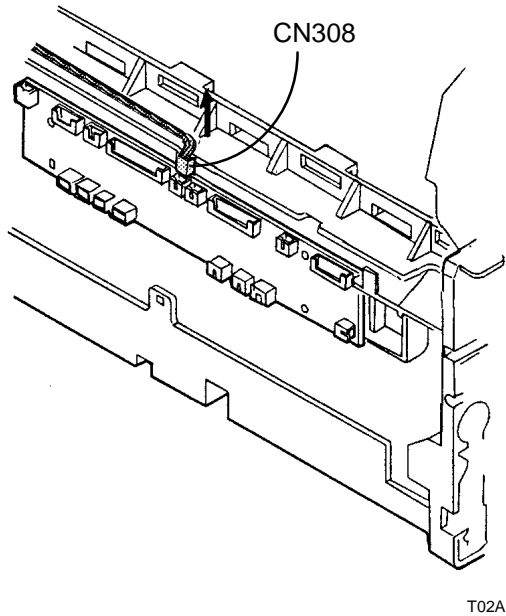

Figure 3. Disconnecting the Exit Sensor
5. (Figure 3): Disconnect the three wire Exit Sensor connector (CN308) from the Connector PWB. Free the harness from the wiring clips and cut any cable ties.